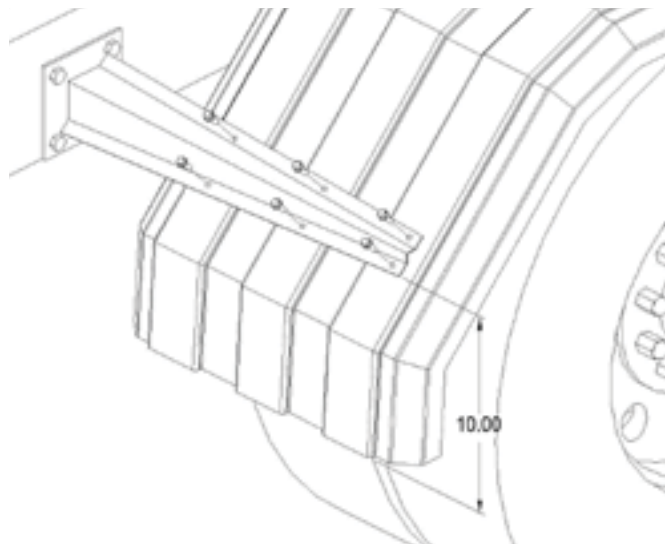

Figure 6
C. Before welding bracket or bolting mounting plate, make sure the brackets are within 10" of the bottom of the fender to avoid wind blowing the fender back into the tire. If the front fender bracket is mounted higher than 10", run a piece of steel strapping on the inside of the fender to give it extra strength (see Figure 6). When brackets are in position, weld bracket or bolt mounting plate to frame.